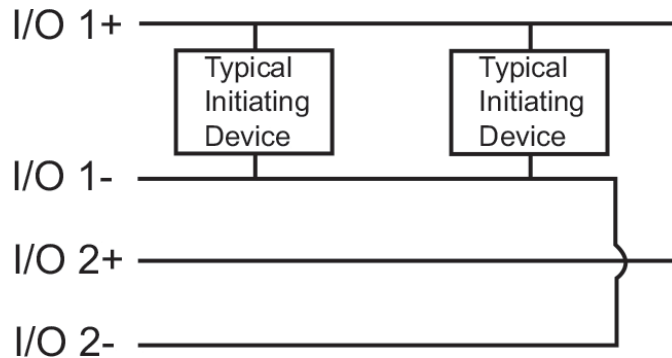

Figure 10: Class A detector-only wiring
1. Route the wiring from IO1+ and IO1- on TB1 of the Zone/Relay Module to the appropriate inputs on the first device. See Figure 10.